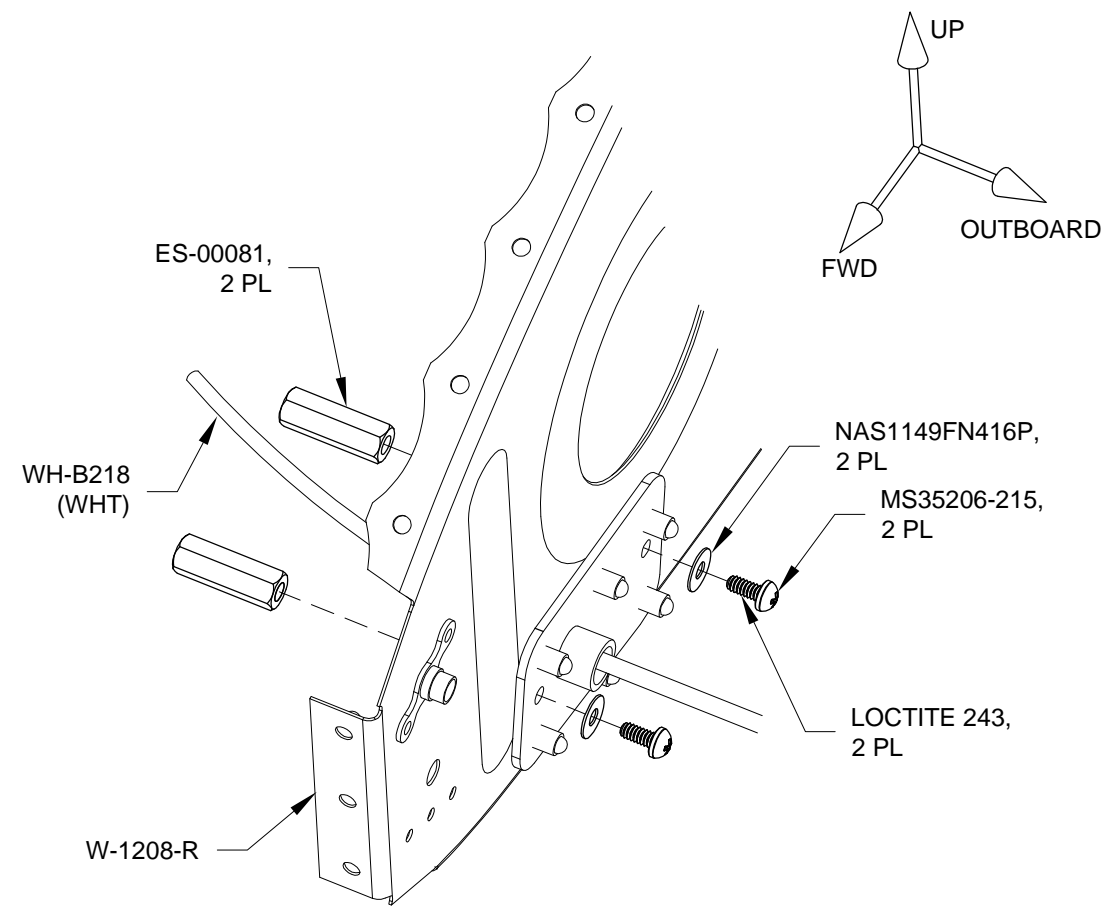

FIGURE 1: INSIDE BLOCK ASSEMBLY VIEW
Step 1: Attach ES-00081 Standoffs to the inboard most W-1208 Nose Rib on each wing as shown in Figure 1.
Step 2: Strip the other end of the WH-B218 (WHT) Terminal Wire and crimp on an ES-00079 Floating Connector Pin 16-20 AWG. See Figures 1 & 2.